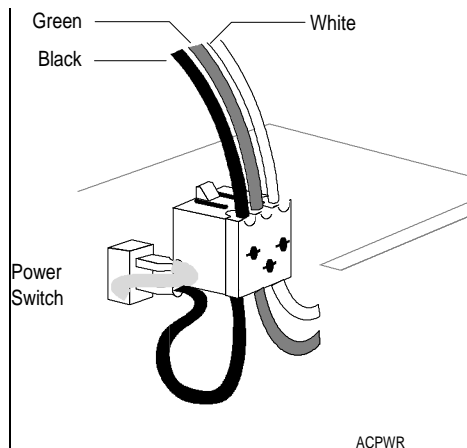

Figure 10: Wiring the Power Source
- Bring 120 VAC 60 Hz into top right portion of the PHX enclosure. Cut back the black (hot), white (neutral), and green (ground) wires on the outlet to six inches. Connect these to the line power using the same color code. See Figure 10 below. This powers the entire PHX system.